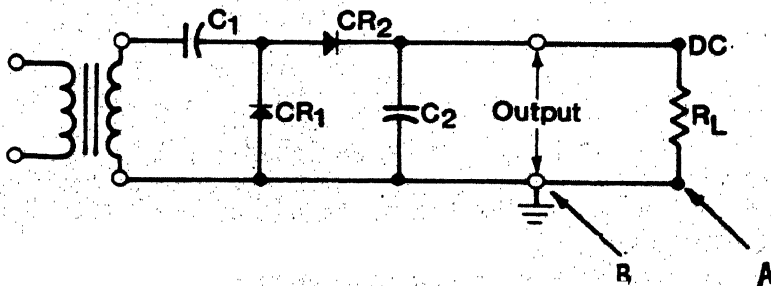

Figure 3
3. There are zero volts dropped across a component that does not have current through it. See Figure 3.